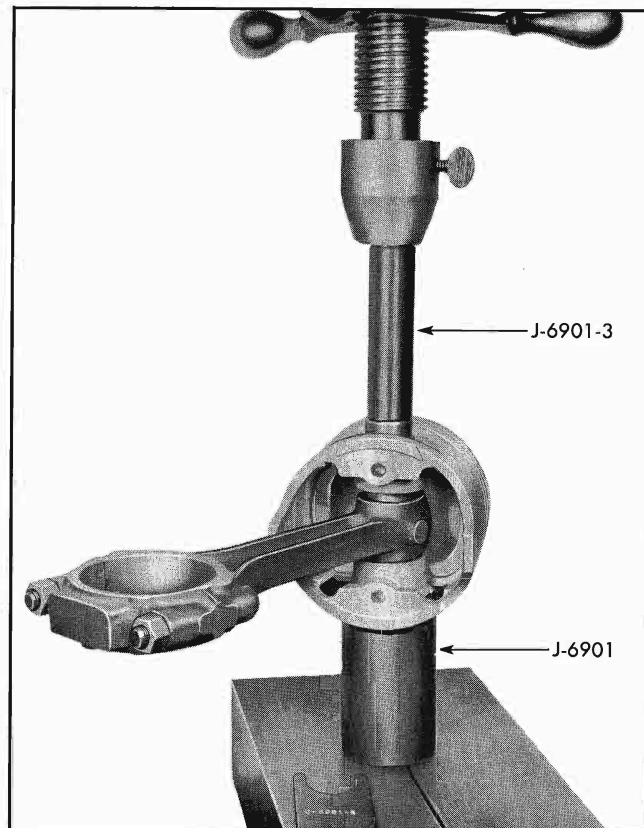

Fig. 6-71 Installation of Piston Pin
1. Place plunger and spring in tool J-6901 (Fig. 6-71) to be used as a pilot and stop.
4. Place tool J-6901-3 in piston pin and press pin into piston and connecting rod (Fig. 6-71) until piston pin bottoms against plunger of tool J-6901. Piston must turn freely on pin. If piston binds on pin, disassemble, hone piston pin bosses slightly and reassemble.